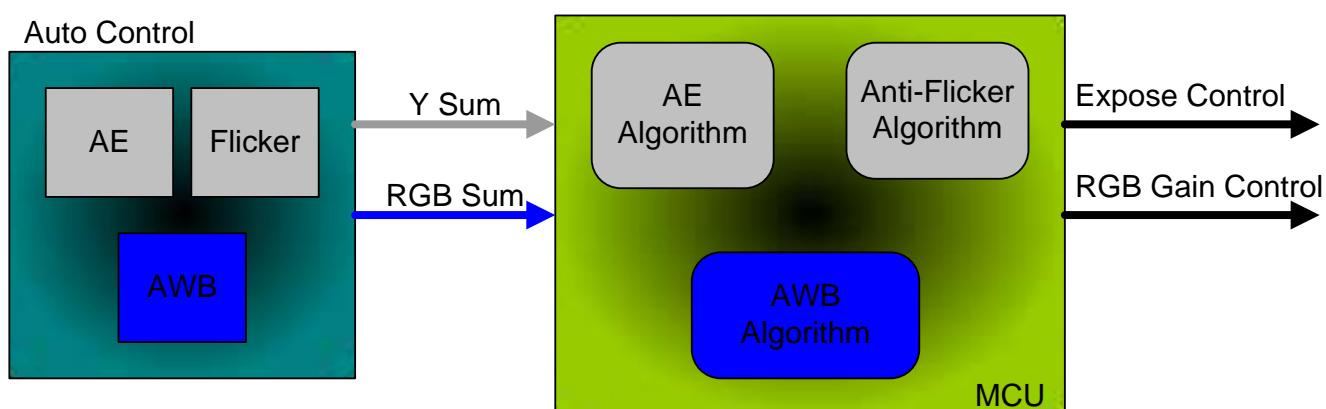

Figure 17-1 Auto Control Function
CP8210 has auto control functions such as AE, Anti-Flicker, and AWB. These functions are not all processed in the ISP block, but transfers the information to the MCU that can operate the auto control algorithm. As shown in Figure 17-1 the brightness(Y) data for Anti-Flicker and RGB data for AWB are transferred to the MCU and depending on the calculation results of each algorithm, expose time, and RGB gain are performed.